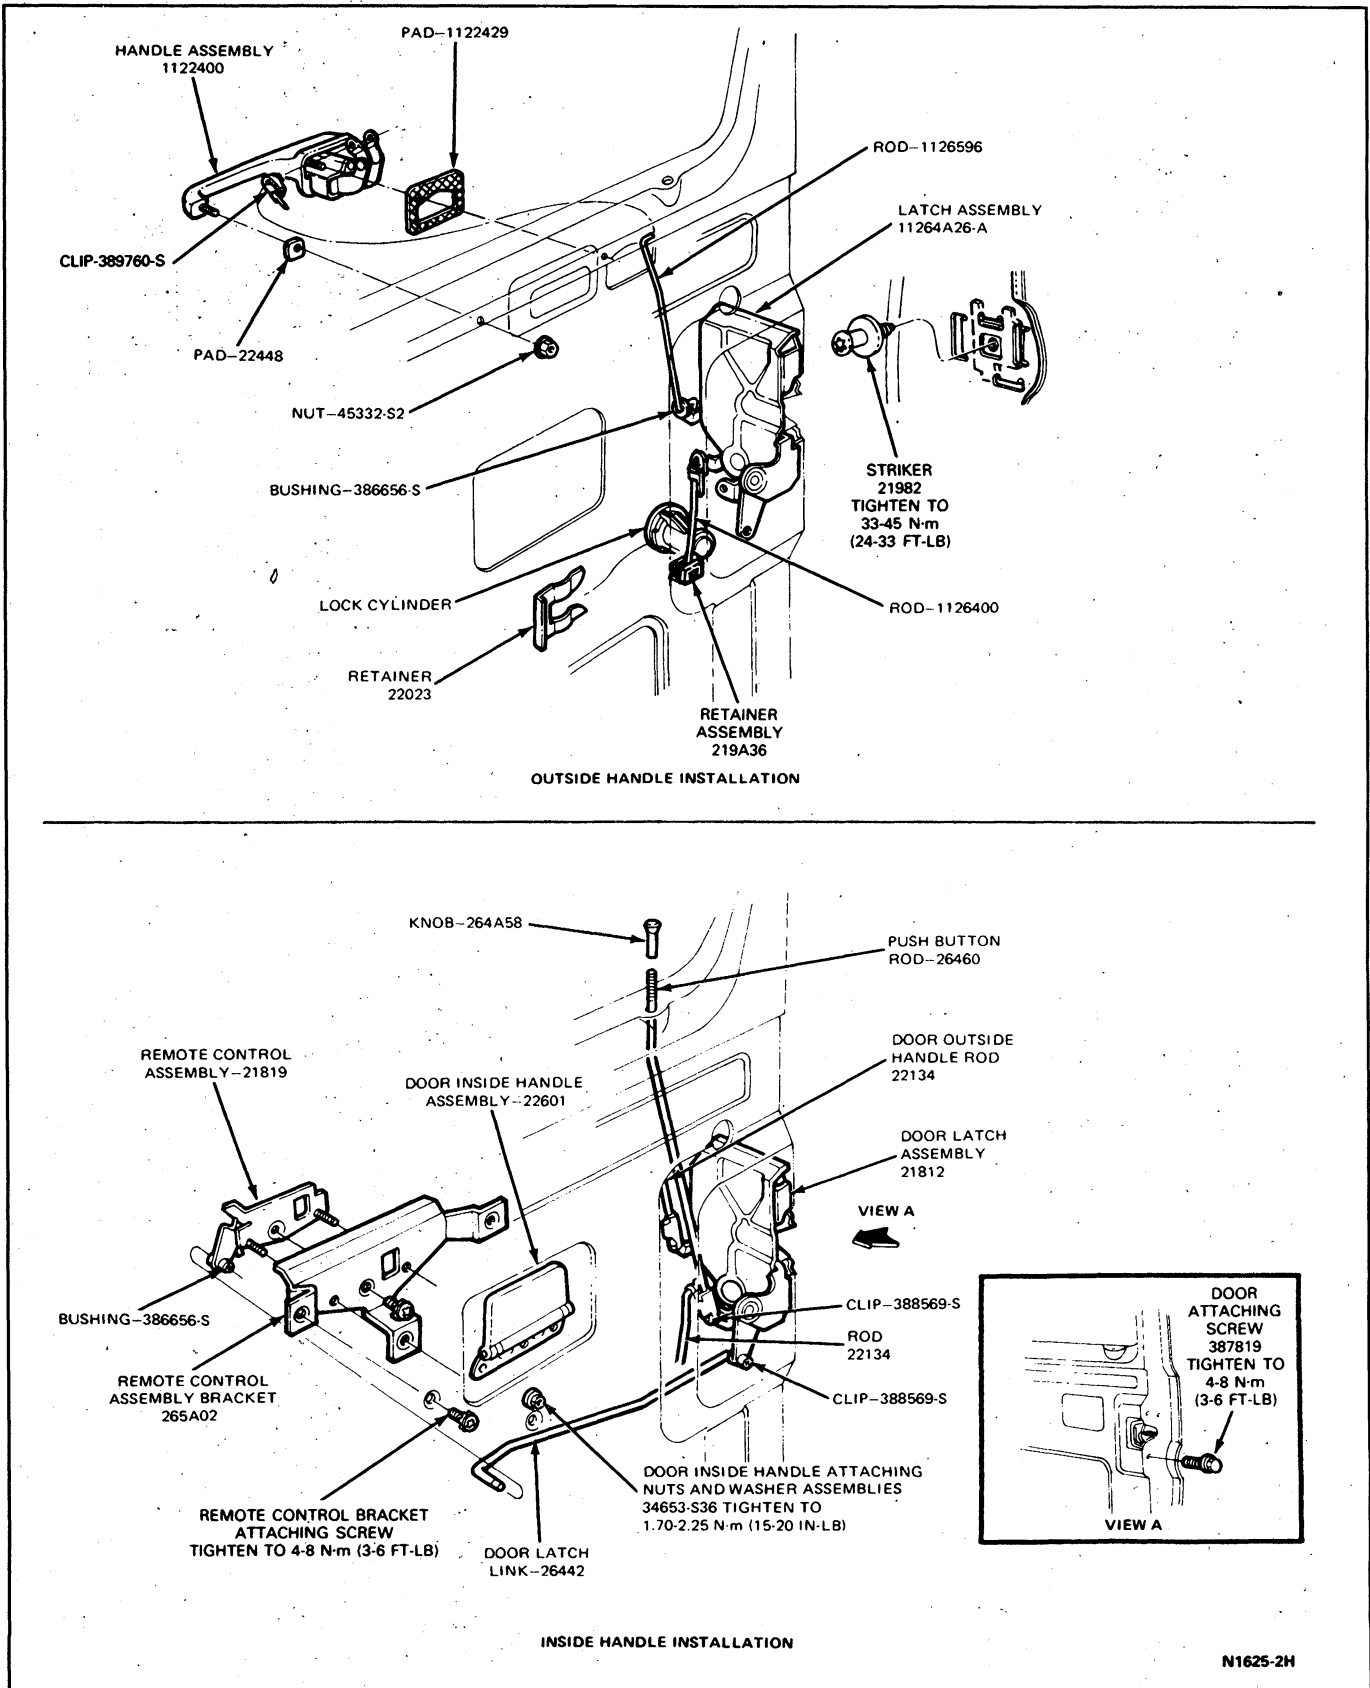

FIG. 4 Front Side Cargo Door Latch Installation—E-150—E-350
2. Remove the two nuts attaching the door inside handle and remove handle (Fig. 4).
4. Unscrew and remove the door lock pushbutton knob (Fig. 4).
6. Disconnect the door outside handle rod from the outside handle (Fig. 4).